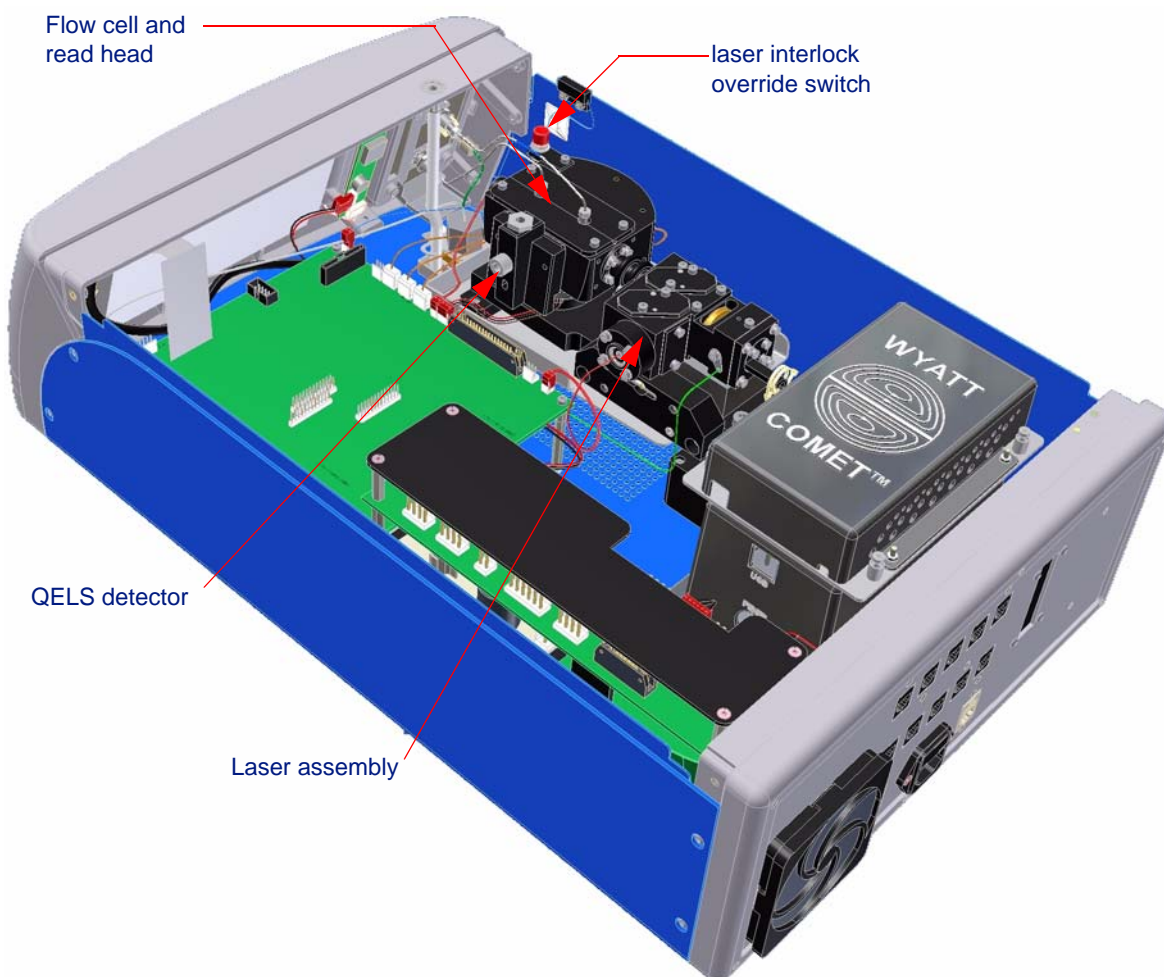

Figure 3-5: The miniDAWN TREOS uncovered
4. Slide the cover up to remove it. You can now see the components, as shown in Figure 3-5.